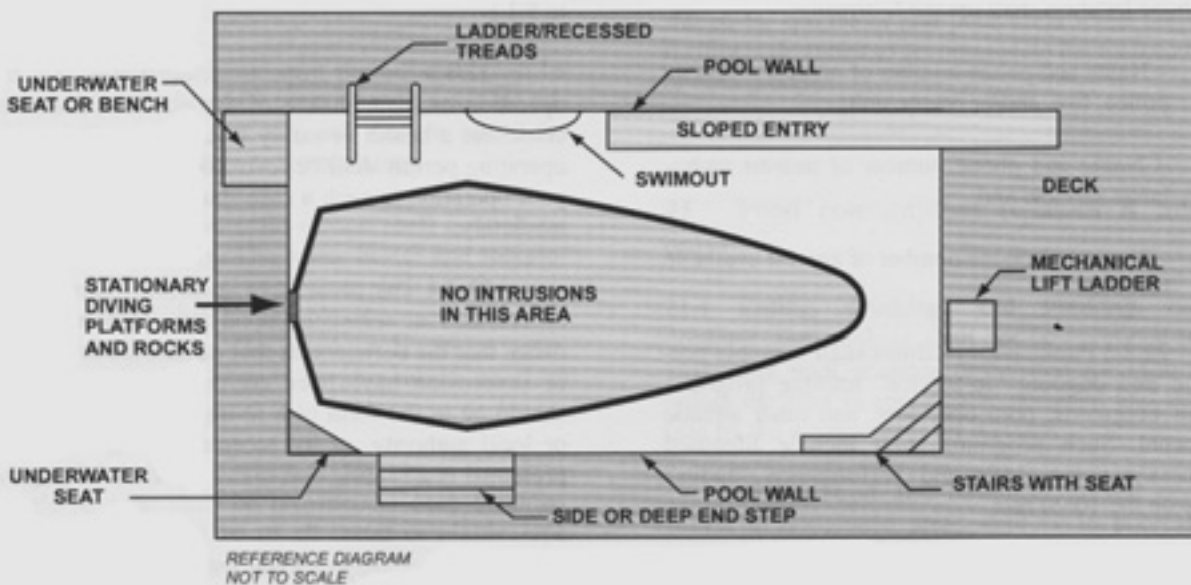

Figure 3 – Minimum diving water envelope
23.1.5 If the pool is designed for use with diving equipment, the entries and exits, pool stairs, ladders, underwater benches, special features, and other accessories shall be located outside the minimum diving water envelope as shown in figure 3.